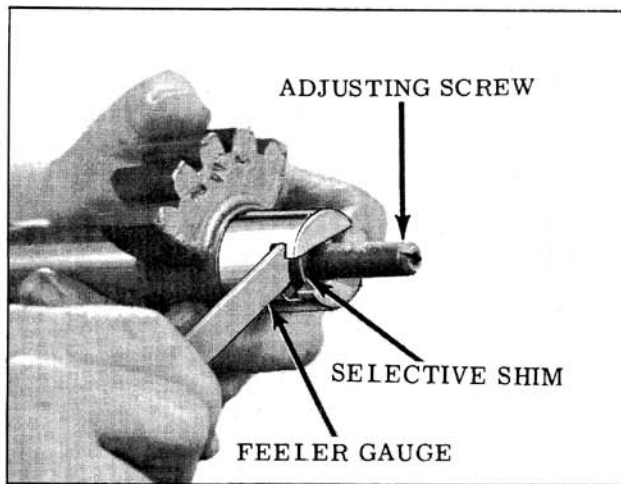

Fig. 8-12 Checking End Clearance
- Check the end clearance of the adjusting screw in the slot of the pitman shaft. (Fig. 8-12) The screw should rotate freely but not have more than .002" clearance. If clearance exceeds .002", select the proper shim to bring the clearance to specification. (Shim thicknesses are .063", .065", .067", and .069")